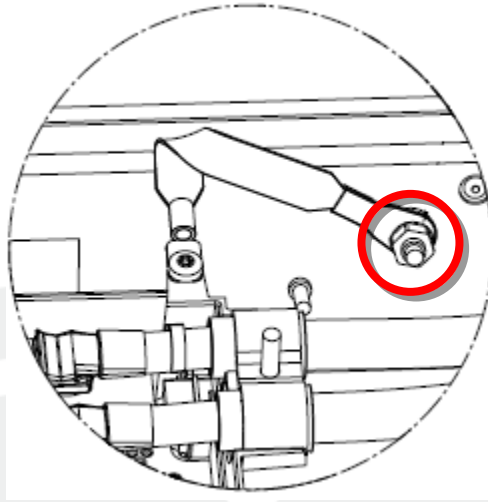

Figure 15
25. Release the nut at the rear of the vehicle that secures the ground strap from the HVJB, and lift the ground strap off of the stud (Figure 15).